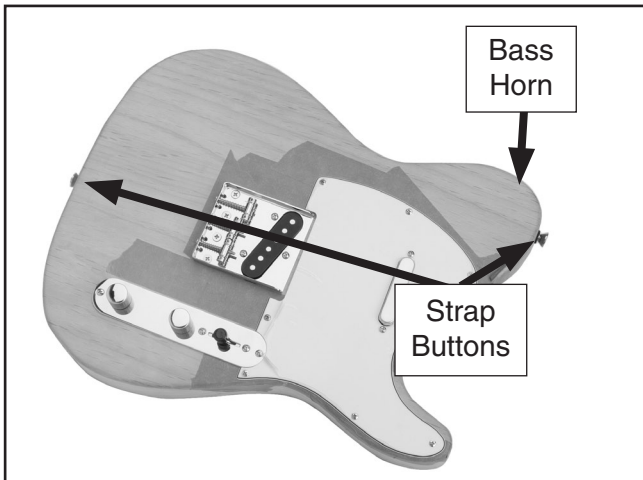

Figure 27. Example of strap button placement.
The strap buttons are positioned on the guitar as shown in **Figure 27**.
- Using a $\frac{3}{32}$ " drill bit, drill $\frac{1}{2}$ " deep holes at the end of the guitar—on the center line—and on the bass horn (**Figure 27**).